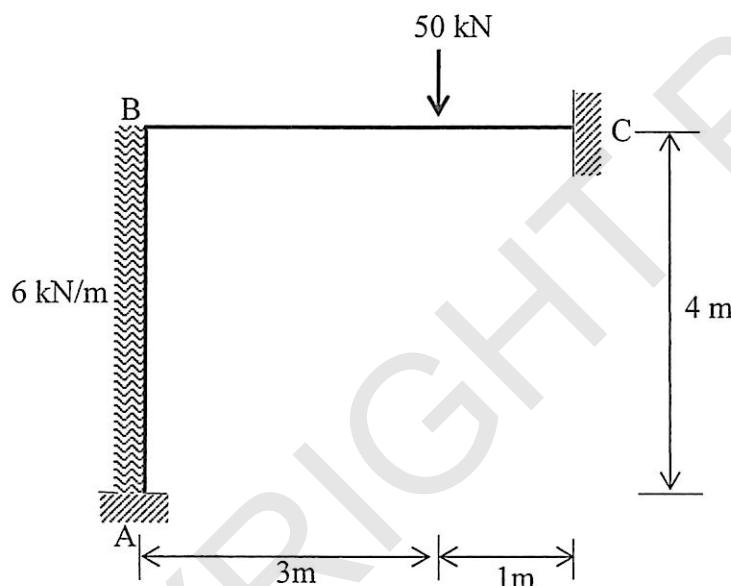

Figure B4 / Rajah B4
The portal frame shown in Figure B4 is a non-swaying portal frame. A frame is fixed at A and C carries a uniformly distribution load and point load.
- CLO1 (b) Identify the value of fixed end moment for portal frame in Figure B4.